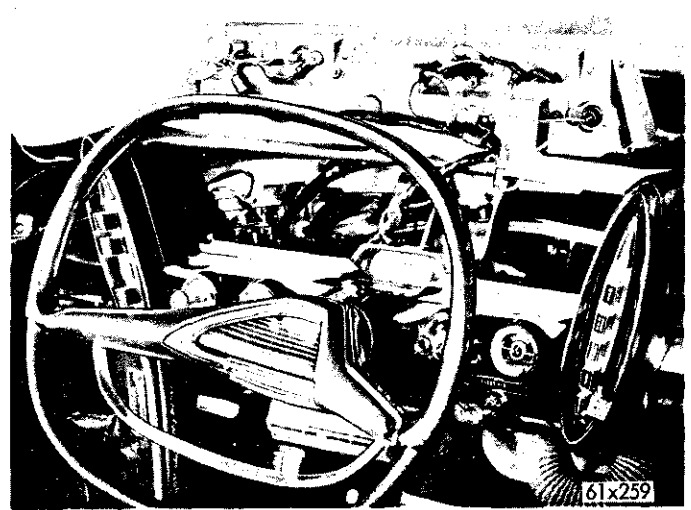

Fig. 63—Disconnect all Electrical Connections
**NOTE:** For speedometer or complete cluster removal, disconnect all electrical connections, and disengage the wire harness loom from harness clips and remove the cluster to the work bench for further disassembly (Fig. 63).